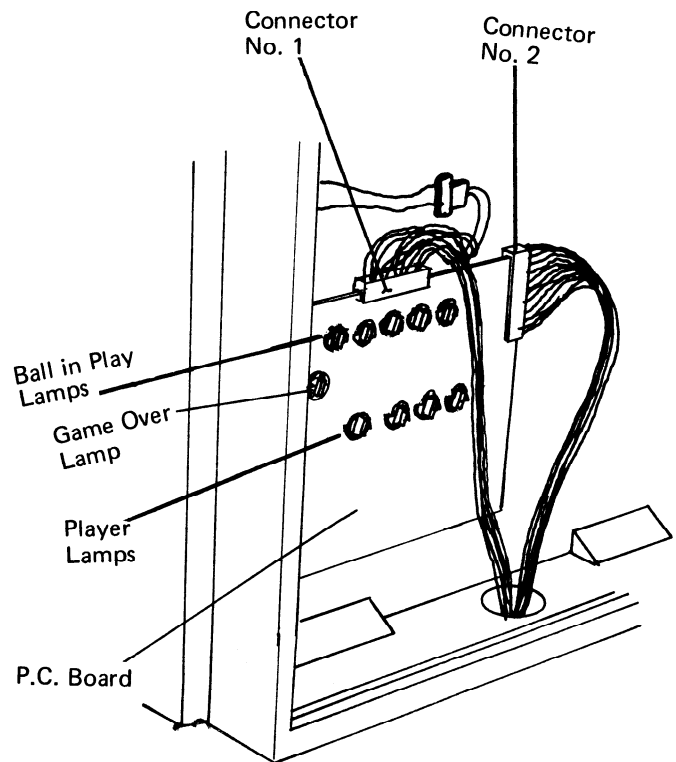

FIGURE 11
9. Press PC Board connector No. 1 (see Figure 11.) firmly onto PC Board. Check wires to insure that they are firmly in connectors.
12. This light is located on the PC Board. (See Figure 11, Page 12).